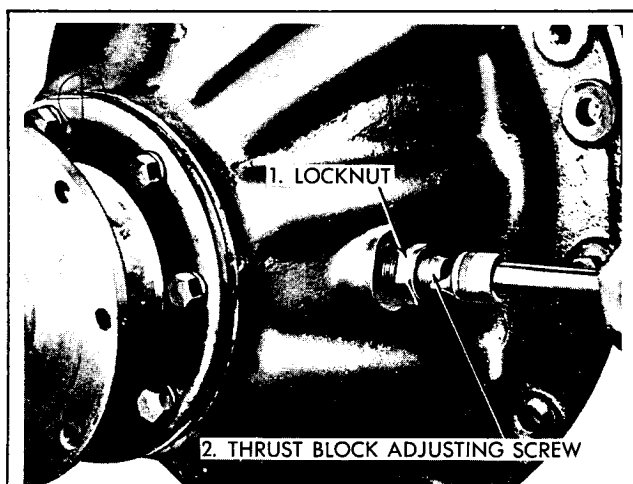
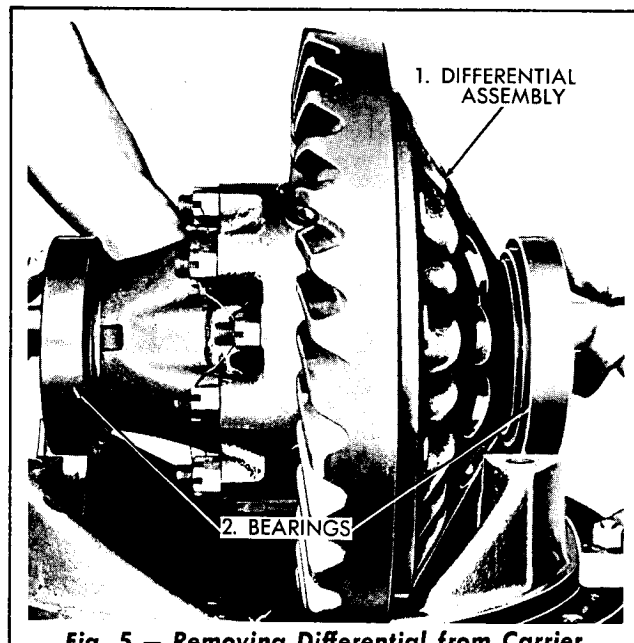

Fig. 4 — Loosening Thrust Block Adjusting Screw
Fig. 5 — Removing Differential from Carrier
5. Loosen the locknut (Fig. 4), back off the thrust block adjusting screw, and lift out the differential and gear assembly (Fig. 5).